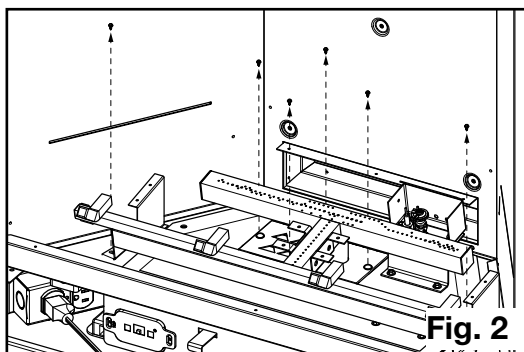
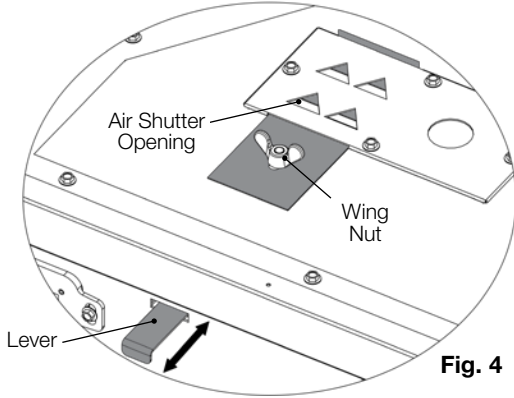

Fig. 2
Fig. 4
- ☐ 3. Remove 2 screws securing the burner assembly in place then remove 4 screws securing the air box cover in place (**Fig. 2**). Lift the assembly up and out of the appliance to access the orifice. Avoid touching nut securing the air shutter slide (**Fig. 4**).